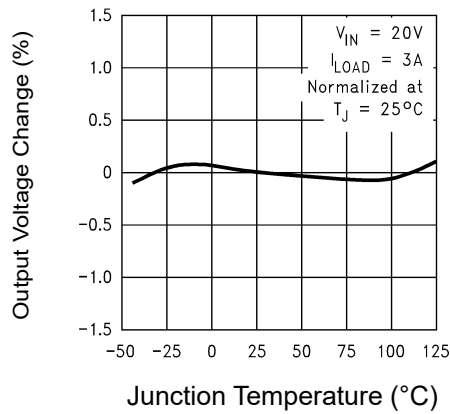

Figure 1: Normalized Output Voltage
ON/OFF CONTROL Test Circuit Figure 1
Note 5: External components such as the catch diode, inductor, input and output capacitors, and voltage programming resistors can affect switching regulator system performance. When the LM2575 is used as shown in the Figure 1 test circuit, system performance will be as shown in system parameters section of Electrical Characteristics.
11.1 Typical Characteristic (Circuit of Figure 1)